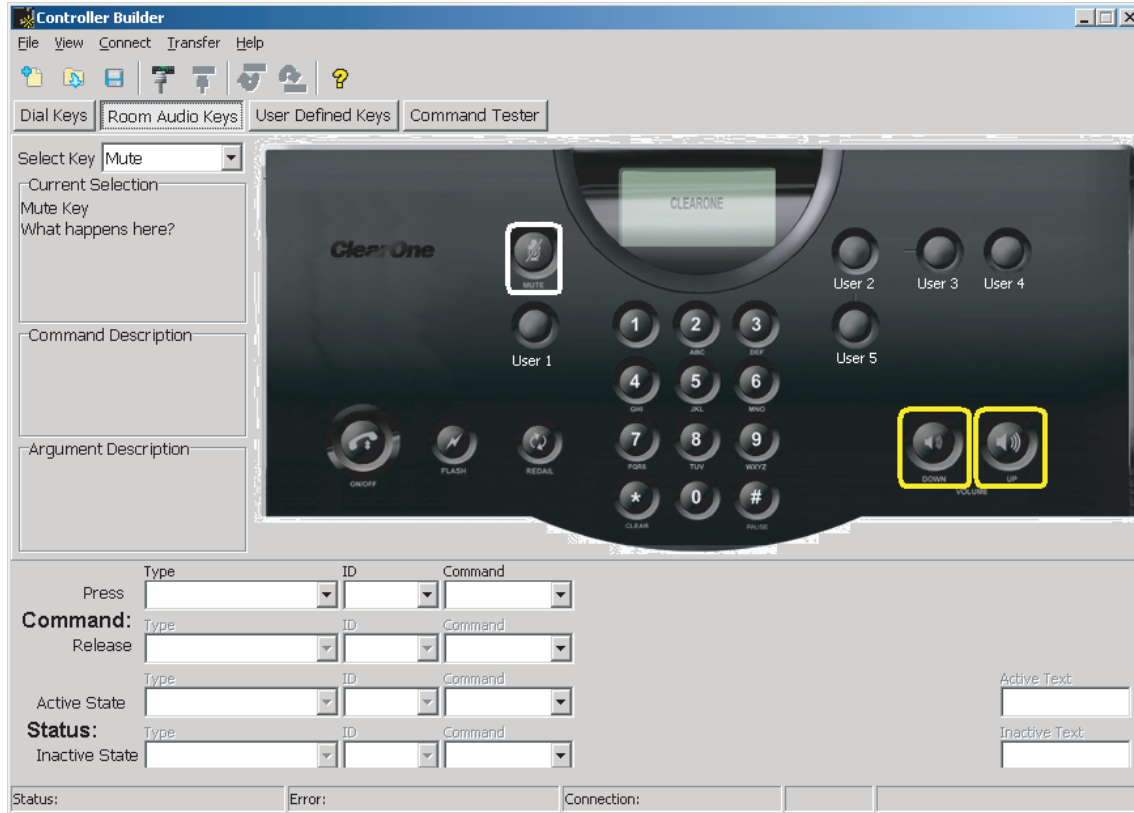

FIGURE 2.7 Customizing room audio keys
1. Click the **Room Audio Keys** button. The **MUTE**, **UP** (volume up), and **DOWN** (volume down) keys are outlined in the Controller Builder window. Click the key you wish to modify or select the key from the **Select Key** drop-down list. The **Current Selection** description field instructs you to select the device type and device ID (DID) for the unit that will be affected when you press the selected key (see Figure 2.7).